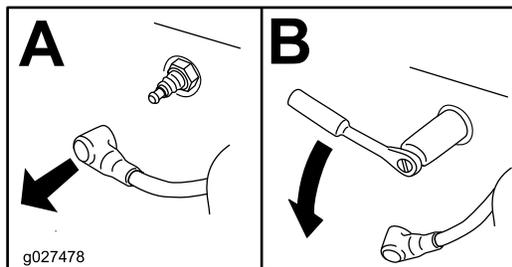

Figure 34
4. Remove the spark plug (Figure 34).